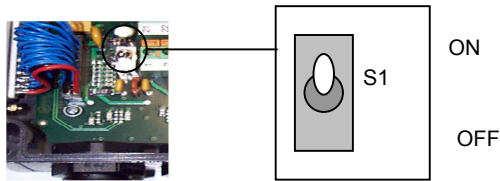

Figure 2.6 - Power switch ON/OFF positions
Switch ON the C-BOX 200 power switch (see Figure 2.6).
The power switch (see Figure 2.6) switches the power supply ON or OFF for both the C-BOX 200 and the connected scanner.
- 2) Verify that the C-BOX 200 power switch is off (see Figure 2.6).